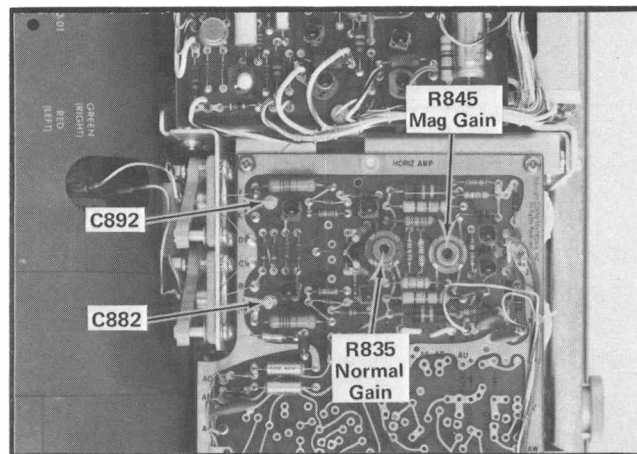

Fig. 5-9. Location of Horizontal Amplifier adjustments (Horizontal Output board).
- d. ADJUST—Normal Gain adjustment R835 (see Fig. 5-9) for one marker each division. The second and tenth markers must coincide exactly with their respective graticule lines (reposition display slightly with the horizontal POSITION control if necessary).
- d. ADJUST—Mag Gain adjustment R845 (see Fig. 5-9) for one marker each division. The second and tenth markers must coincide exactly with their respective graticule lines
- g. ADJUST—C882 and C892 (see Fig. 5-9) for optimum linearity over the center eight divisions of the graticule (attempt to keep C882 and C892 nearly equal in capacitance, by adjusting each capacitor about the same amount). Use low-capacitance screwdriver for this adjustment.